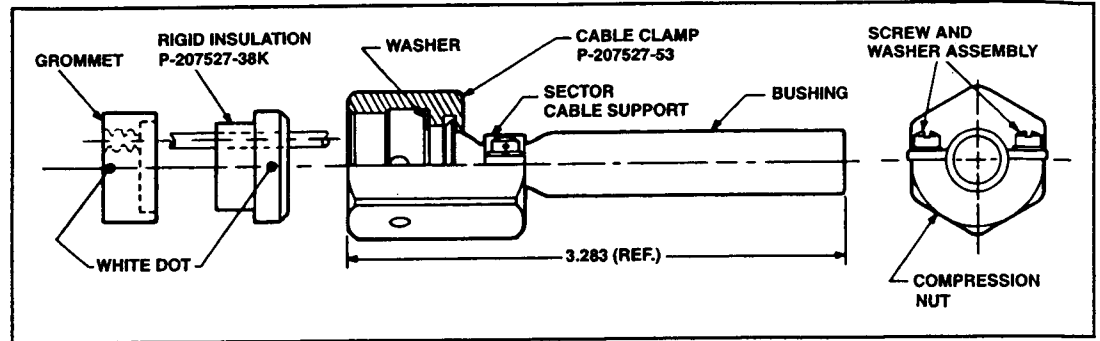

FIGURE 1
1. Orient the white dot on the rigid insulation so that it is in line with the white mark on the face of the insert in the shell. Insert the wires through the cable clamp (P-207527-53) and the rigid insulation (P-207527-38K). See Figure 1.
5. Align both axially marked white dots. This will automatically allow the key on the rigid insulation to go into the rubber cavity for insulation alignment. See Figure 1.